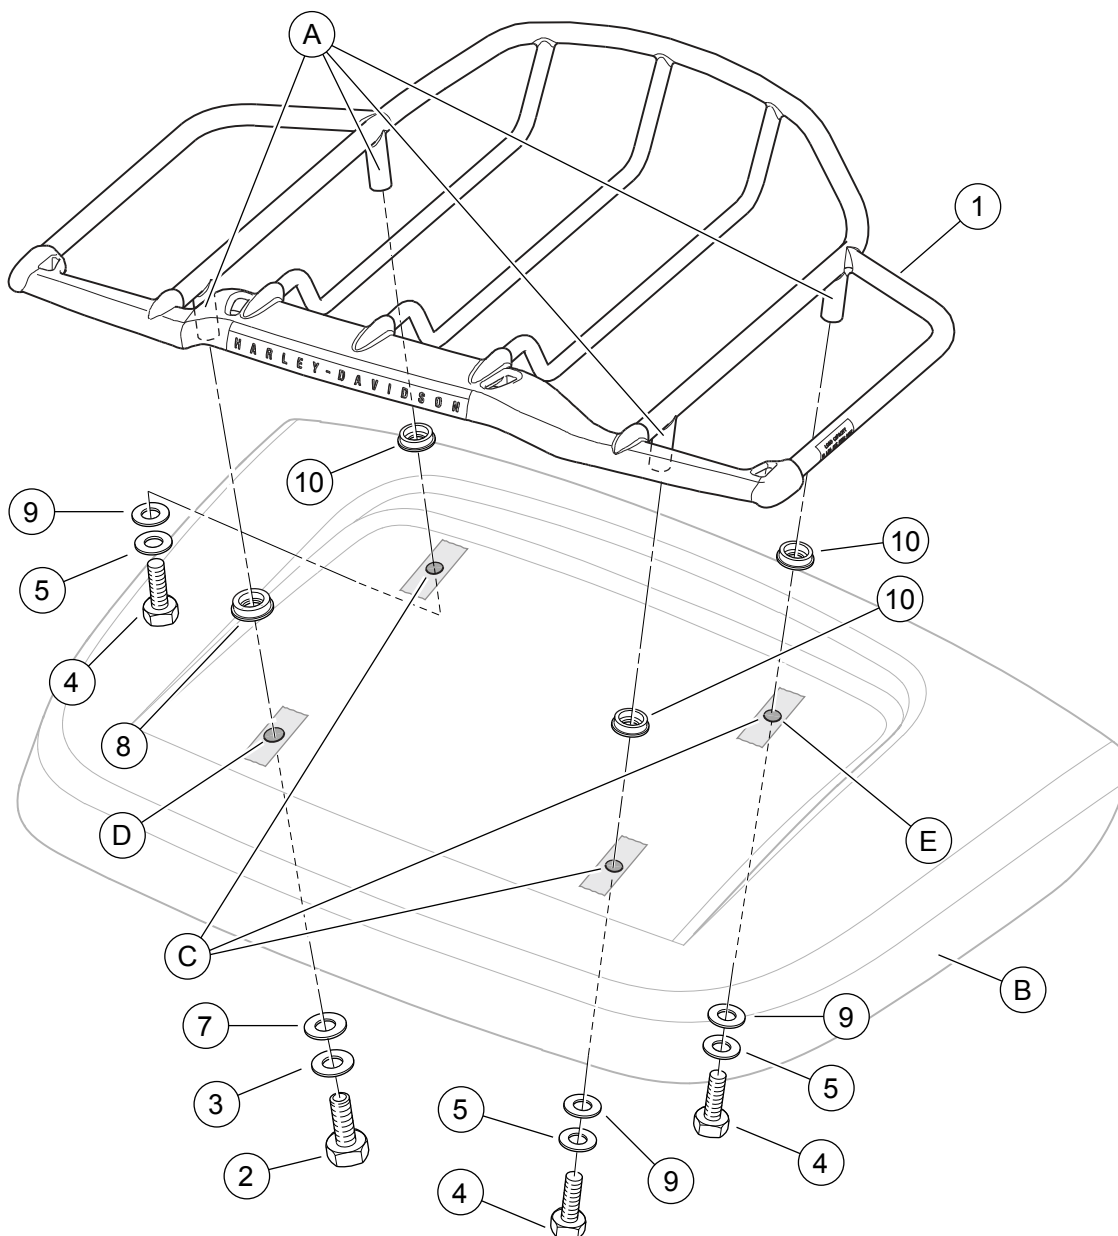

Figure 1. Service Parts, Air Wing Lid Rack
See Figure 1 and Table 1.
2. See Figure 1. Slip the **larger diameter** mounting pad (8) onto the left-rear leg. Slip the three **smaller diameter** mounting pads (10) onto each of the remaining mounting legs (A).
3. Open the trunk and locate the four buttons which are the drill locations (C) and (D).